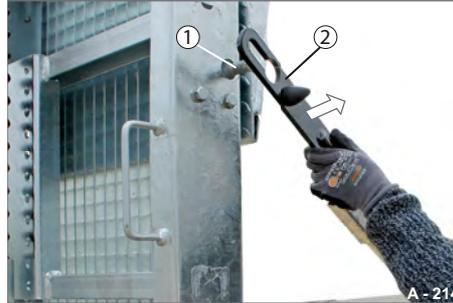

Fig. 52 Removing the securing tensiometer
► Remove the securing tensiometer (Fig. 52/2) from the gudgeon (Fig. 52/1).